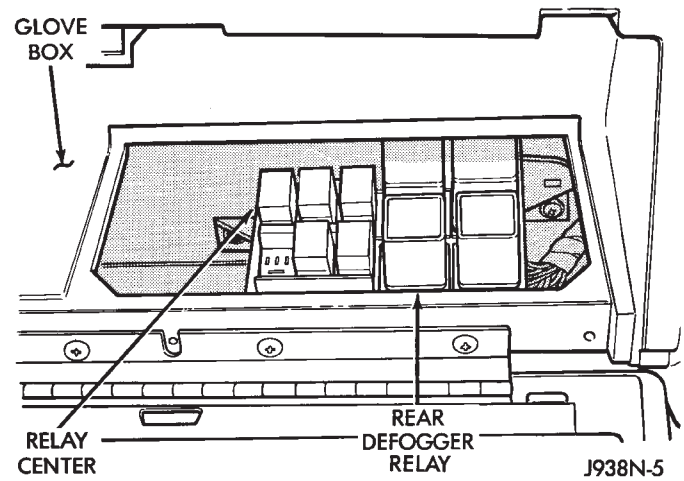

Fig. 13 Rear Defogger Relay
(2) Remove the RED relay from the relay center (Fig. 13).